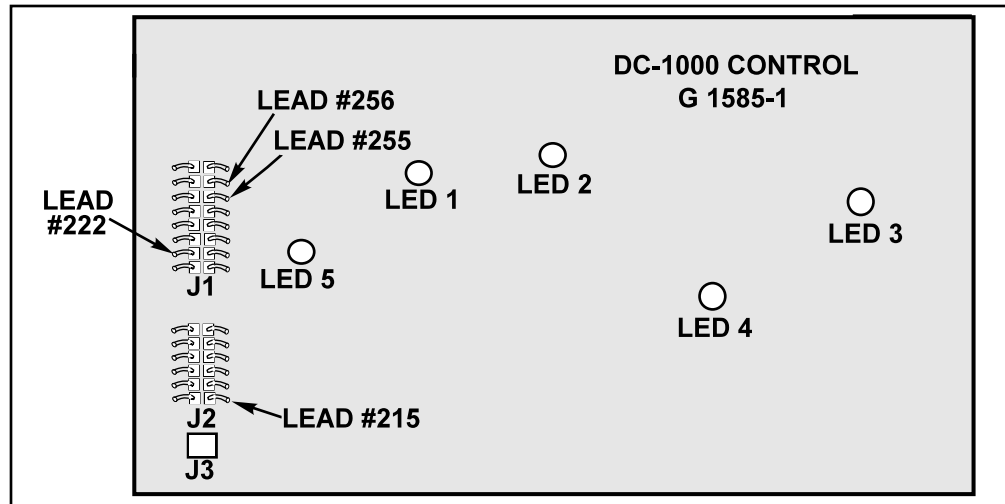

FIGURE F.9 Control Board LED and Pin Locations.
2. Remove screws, loosen and lower the Front Panel to access and inspect the Control Board located in the right front control box. See Figure F.9.